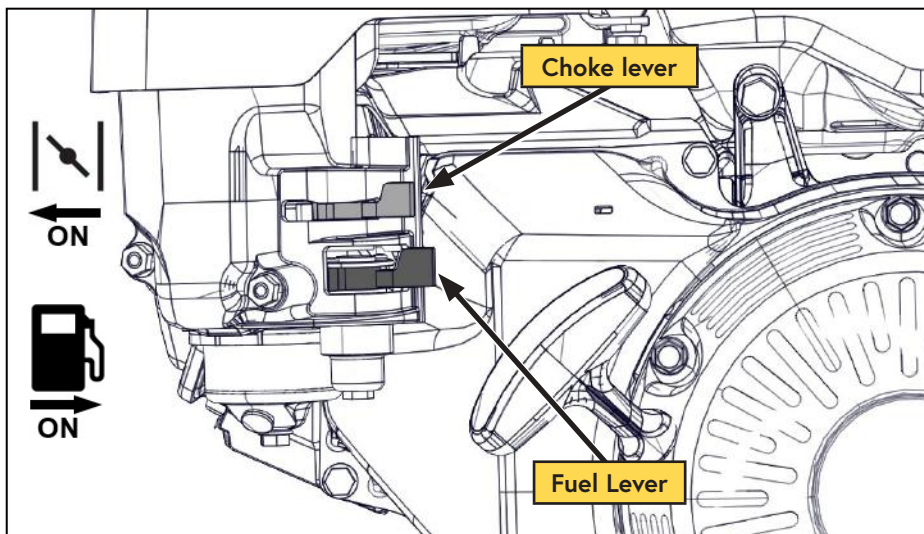

Figure 13 — Fuel and choke levers
- 2) Close the choke by moving the choke lever all the way to the left (Figure 13).
- 3) Turn on the fuel by moving the fuel shut off lever all the way to the right (Figure 13).